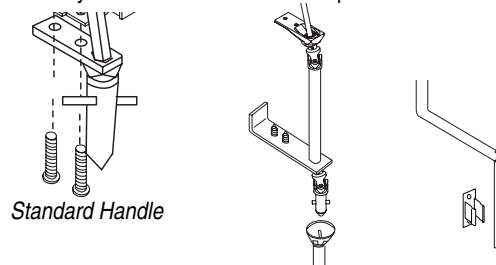

Figure 6
- ⑦ Re-attach crank handle assembly to endcap (see Fig. 6). Make sure the fascia is in place before attaching crank handle, so that the screws attach both the handle assembly and the fascia to the endcap.
- ⑦ Re-attach crank handle (see Fig. 6, page 1). Make sure the headbox fascia or pocket closure is in place before attaching crank handle, so that the screws attach both the handle and the fascia to the endcap.
- ⑨ Re-attach crank handle assembly (see Fig. 6, page 1).